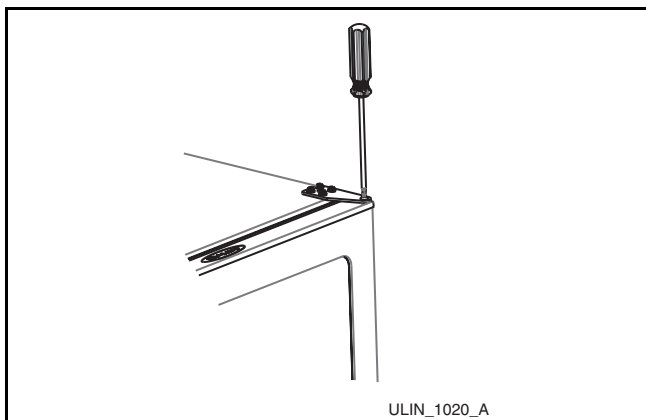

Figure 11
1. Loosen (do not remove) top (**Figure 11**) and bottom hinge screws.